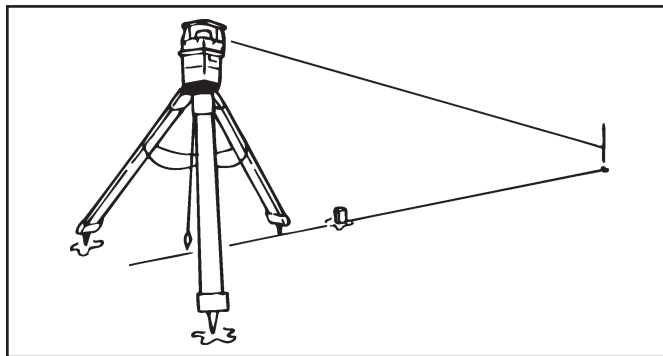

Figure 20. Method One: Align Rotating Laser with Grade Stakes
5. Roughly align one of the axis to the grade stakes by sighting over the top of the Rotating Laser (Refer to Figure 20).